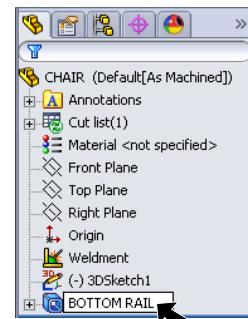

Fig. 16
Step 1. Rename Structural Member1 to BOTTOM RAIL in the Feature Manager, **Fig. 16**. To rename, click Structural Member1 name in Feature Manager and press F2 on keyboard. Key-in **BOTTOM RAIL**.